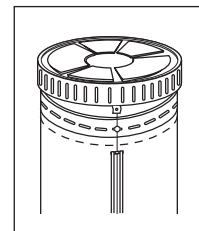

Fig.4
B) MOUNTING TOP PLATE: (Fig. 4)